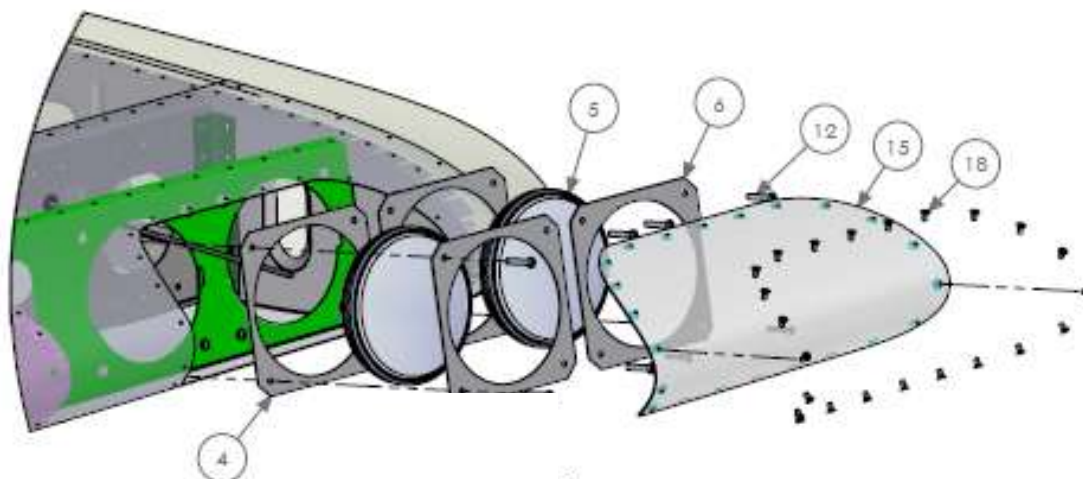

Figure 68 : Landing and taxi light installation.
- Observe correct orientation of the angled plates. Also refer to Figure 68.
- Tie wrap the wires together and to the angled plates (through hole (5)) with a plastic tubular standoff / spacer (6) to distance the wires from the angled plate's edge.